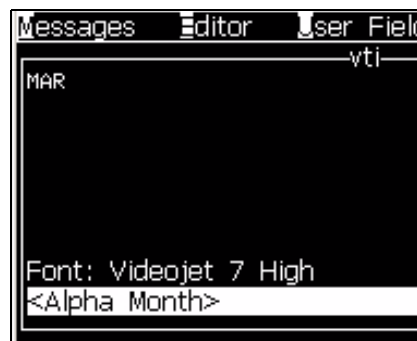

Figure 5-18: User Field - Alpha Month
- 2 Select the user field that you require and press the *Enter* key. For example, the *Alpha Month* is shown in the Figure 5-18.